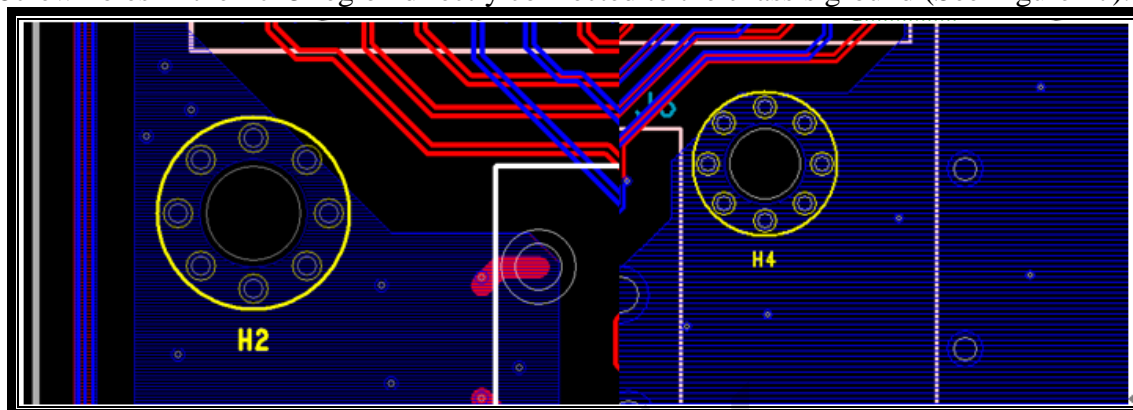

Figure 27. The screw holes in RJ45 region
- ✚ Screw holes in the RJ45 region directly connected to the chassis ground (See Figure 27).